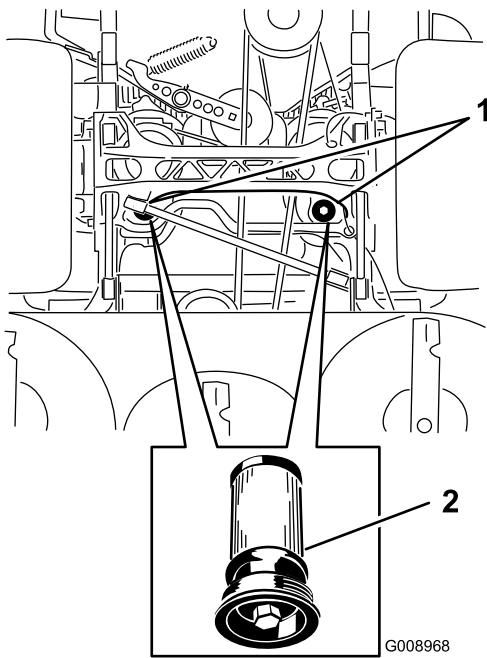

Figure 84
5. Place a drain pan under the filter, remove the old filter and wipe the surface clean (Figure 84).
6. Apply a thin coat of hydraulic oil to the rubber gasket on the replacement filter (Figure 84).